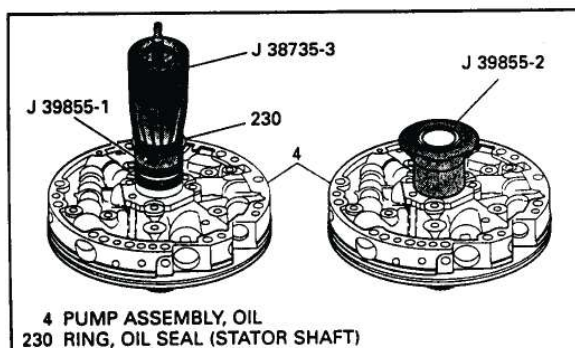

Figure 172
36. If installing the solid sealing rings use J-39855-1 and J-38735-3 to install the seal rings on the stator as shown in Figure 172.
38. Use J-39855-2 to resize the solid seals after installation, as shown in Figure 172.